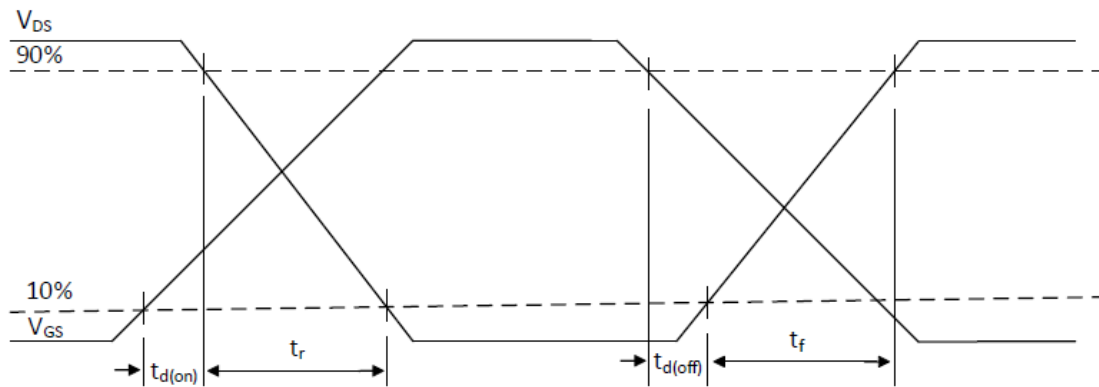

Figure 17: Switching Time Waveforms
(8) See Figure 17 for switching time definition waveforms.
(9) L_p = parasitic inductance.